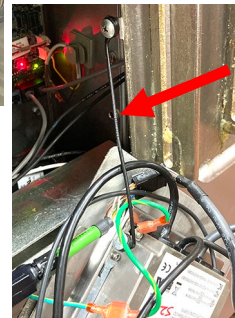

Figure 4
4. Lower the controller and rest it on the bottom of the control box (see Figure 4). The black tether on the right will support the controller.